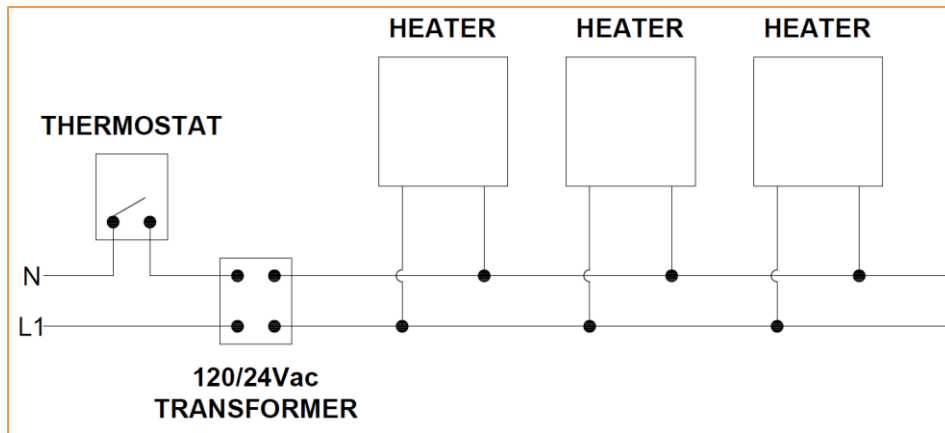

Figure 4: Typical Multi Heater Wiring Diagram
- Figure 4 illustrates typical wiring arrangements for the Series S heater.